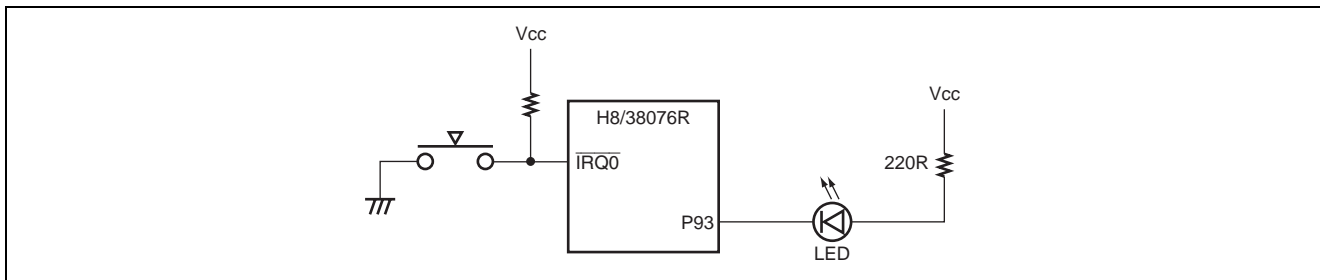

Figure 1 Connection Diagram
- A sample connection diagram is shown in figure 1.